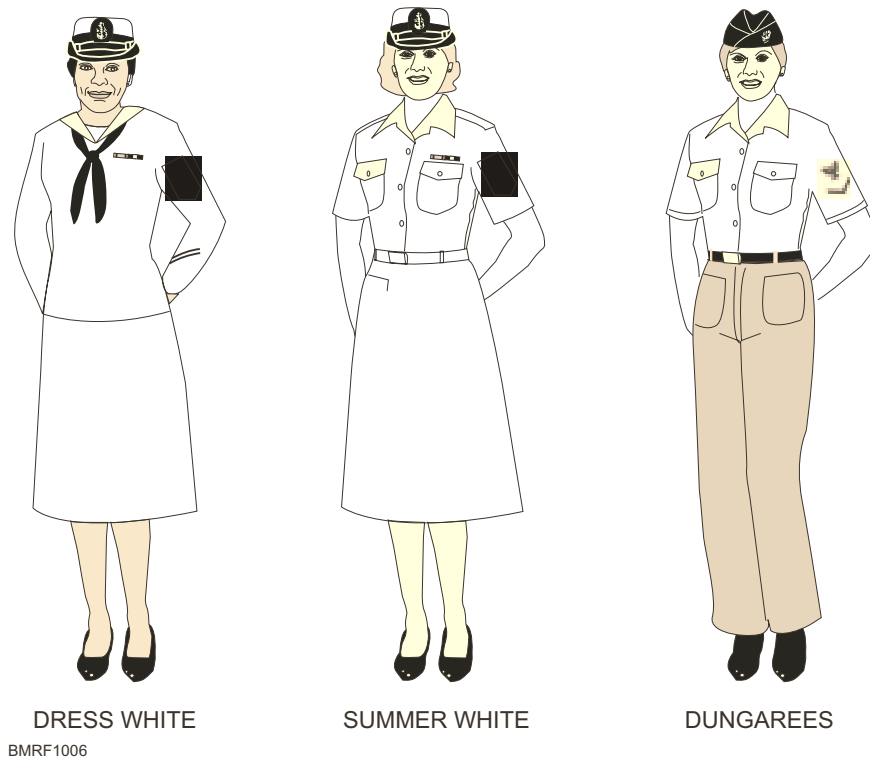

Figure 10-6.—Enlisted women's uniforms (continued).
**Dress white jumper.** The enlisted women's dress white jumper (fig. 10-6). The jumper should fit comfortably with no binding. The sleeves will have inverted creases at the inside and outside edge, hang straight, and be long enough to cover the wristbone. The bottom of the jumper should be loose fitting at the hips. Normally, a white belted skirt is worn with the dress white jumper. However, white jumper slacks can be worn with the dress white jumper. (**NOTE:** When white jumper slacks are used with the white jumper, the hem of the jumper should fall to within 1 inch above the bottom of the pocket opening of the slacks.) The slacks have side seam pockets and inverted creases. The slacks
**Working uniforms.** Working uniforms consist of belted blue slacks or skirt and blue winter shirt. Dungarees (fig. 10-6) are also authorized. Black socks, a garrison cap, black service shoes, and a black handbag may be worn with each. Command ball caps, berets, and the blue cardigan are other items that may be prescribed.